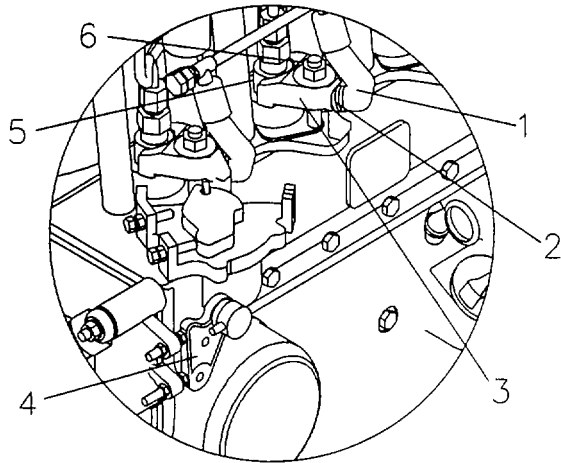
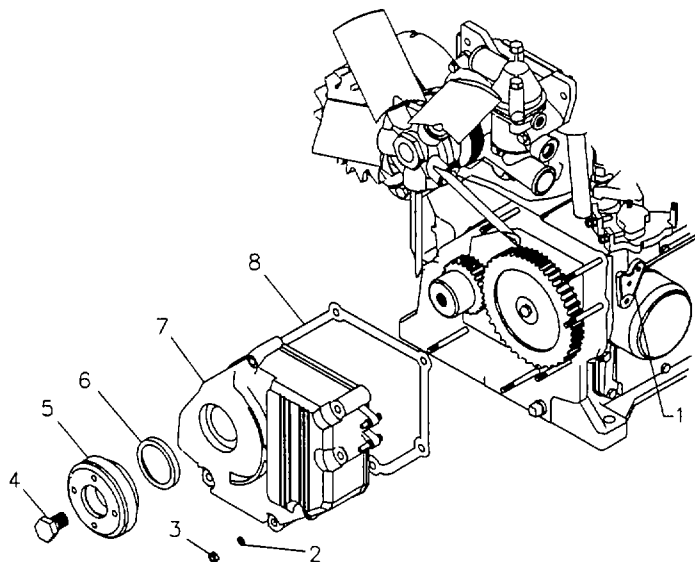
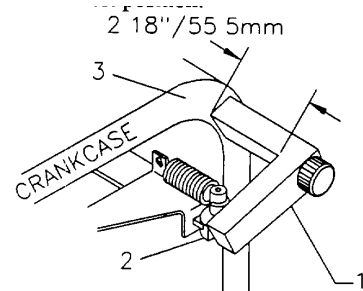

Figure 6-5. Fuel Injector Pump.
Figure 6-7. Gear End Cover
Figure 6-8.
b. Installation. Refer to figure 6-7.
- 3) Make sure that the governor run/stop lever (4, fig. 6-5) is fully rotated counterclockwise to the stop position. Refer to paragraph 6.5.
- 5) Secure fuel pump rack setting gauge (1, fig. 6-8) to the crankcase end face (3, fig. 6-8). Clamp the pump rack (2, fig. 6-8) with the end protruding 2.18 inches/55.5 mm from the crankcase end face (3, fig. 6-8).
- 6) Install the correct original shim pack on the fuel injector pump (5, fig. 6-5).
- 7) Insert the injector fuel pump (5, fig. 6-5) and shims gently into the crankcase making sure that the fuel injector pump pin engages in the slot in the fuel pump rack (2, fig. 6-8).
- 8) Carefully turn the injector fuel pump counterclockwise until the fuel pump rack (2, fig. 6-8) is felt against the stop (1, fig. 6-8) and, while holding it in this position, install the clamp and nut (3 and 6 fig. 6-5). The beveled face of the nut (6, fig. 6-5) faces down towards the clamp (3, fig. 6-5). Take care to ensure the fuel injector pump (5, fig. 6-5) does not move.
- 9) Torque the nut (6, fig. 6-5) to 25.0 ft. lb.
- 10) Rotate fuel line clamp (2, fig. 6-5) and install fuel line (1, fig. 6-5).
- 11) Remove the rack setting gauge (1, fig. 6-8) from the crankcase end face (3, fig. 6-8) and install the gear end cover (7, fig. 6-7), gear end oil seal (6, fig. 6-7) and gasket (8, fig. 6-7) using the gear end oil seal tool to prevent damage to the oil seal.
- 12) Install the crankshaft pulley, (3, fig. 6-7) and secure with bolt (4, fig. 6-7) using the flywheel locking tool to hold the flywheel. Torque to 221 ft. lb. Remove flywheel locking tool.